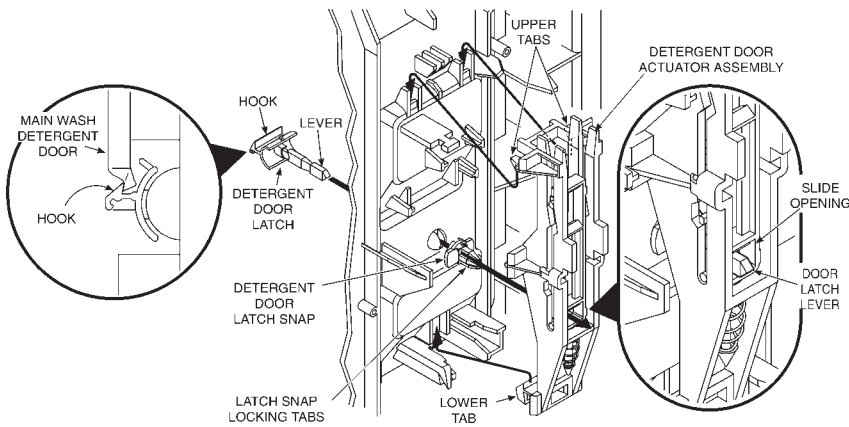

Fig. 2-19
9. Use a screwdriver to gently release the lower tab and remove the detergent door actuator assembly. As you do, note the position of the door latch level through the hole in the lower slide. (Fig. 2-19)